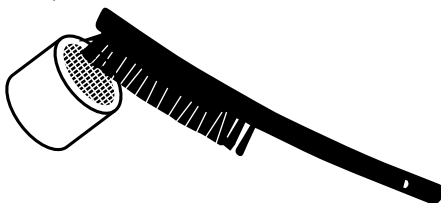

Figure 24: Brush dirt and debris off spark arrester
8. Using a wire brush, remove any dirt and debris that may have collected on the spark arrester screen (see Figure 24).